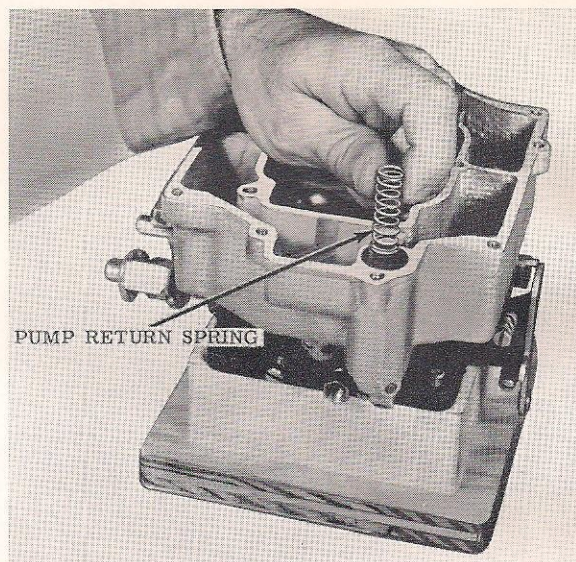

Figure 7-20
4. Install the pump return spring in pump well and position by compressing with finger. (Figure 7-20.)